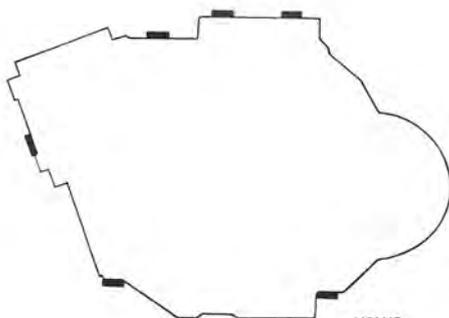

Fig. 8-77. Placing clamps for middle connector
9. Fit the left half. When assembling use clamps with part No. 676234, which are fitted with pliers as shown in Fig. 8-60. Concerning the location of these clamps, see Fig. 8-77.